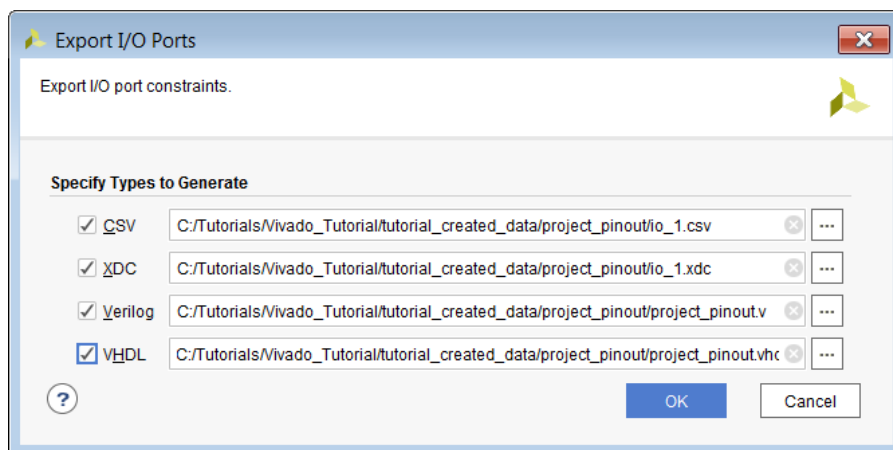

Figure 7-1: Export I/O Ports Dialog Box
2. In the Export I/O Ports dialog box (Figure 7-1), specify the type of I/O port to generate and the path, and click **OK**.